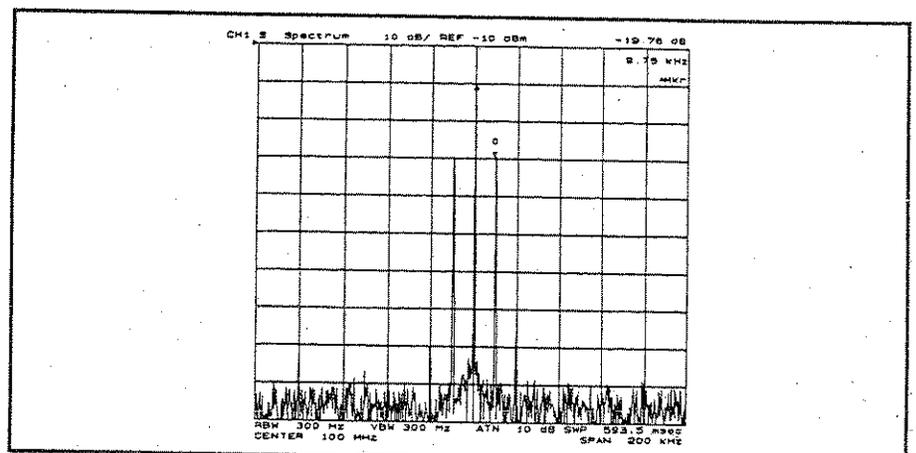

Figure 3-13. Modulating Frequency of AM Signal
- Press **Search** SEARCH:PEAK NEXT PEAK to search for a sideband. The offset value from the carrier is displayed as the marker sweep parameter value shown in Figure 3-13. This value is the modulation frequency.
where ΔMkr is the Δ marker sweep parameter value shown in Figure 3-13.